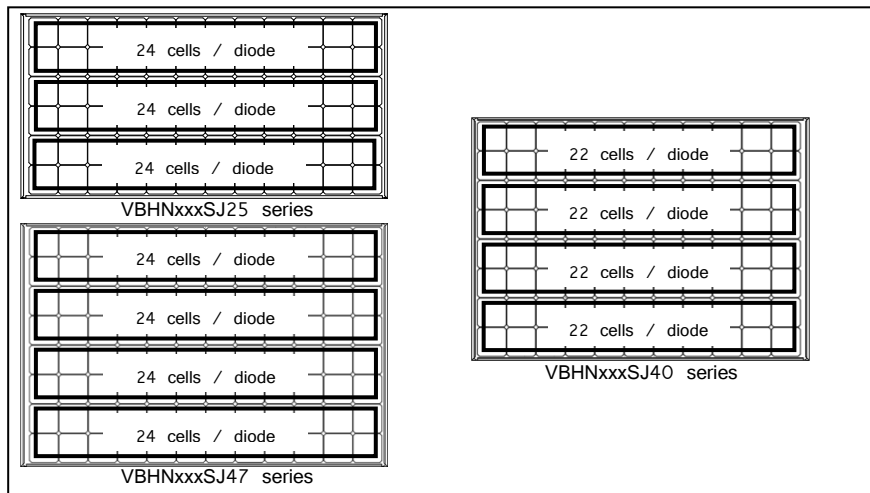

Figure 4: Number of series cells per bypass diode
- Specifications of bypass diode for VBHNxxxSJ25 series are as follows; Number of bypass diode: 3 diodes, Number of series cells per bypass diode: 24 cells / diode. Specifications of bypass diode for VBHNxxxSJ40 series are as follows; Number of bypass diode: 4 diodes, Number of series cells per bypass diode: 22 cells / diode. Specifications of bypass diode for VBHNxxxSJ47 series are as follows; Number of bypass diode: 4 diodes, Number of series cells per bypass diode: 24 cells / diode (See Figure 4).